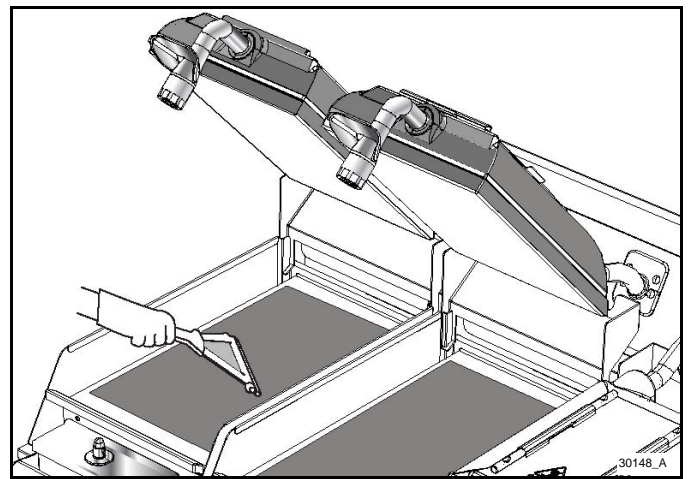

Figure-86
1. Squeegee the lower release sheet from front to back. See Figure-86.